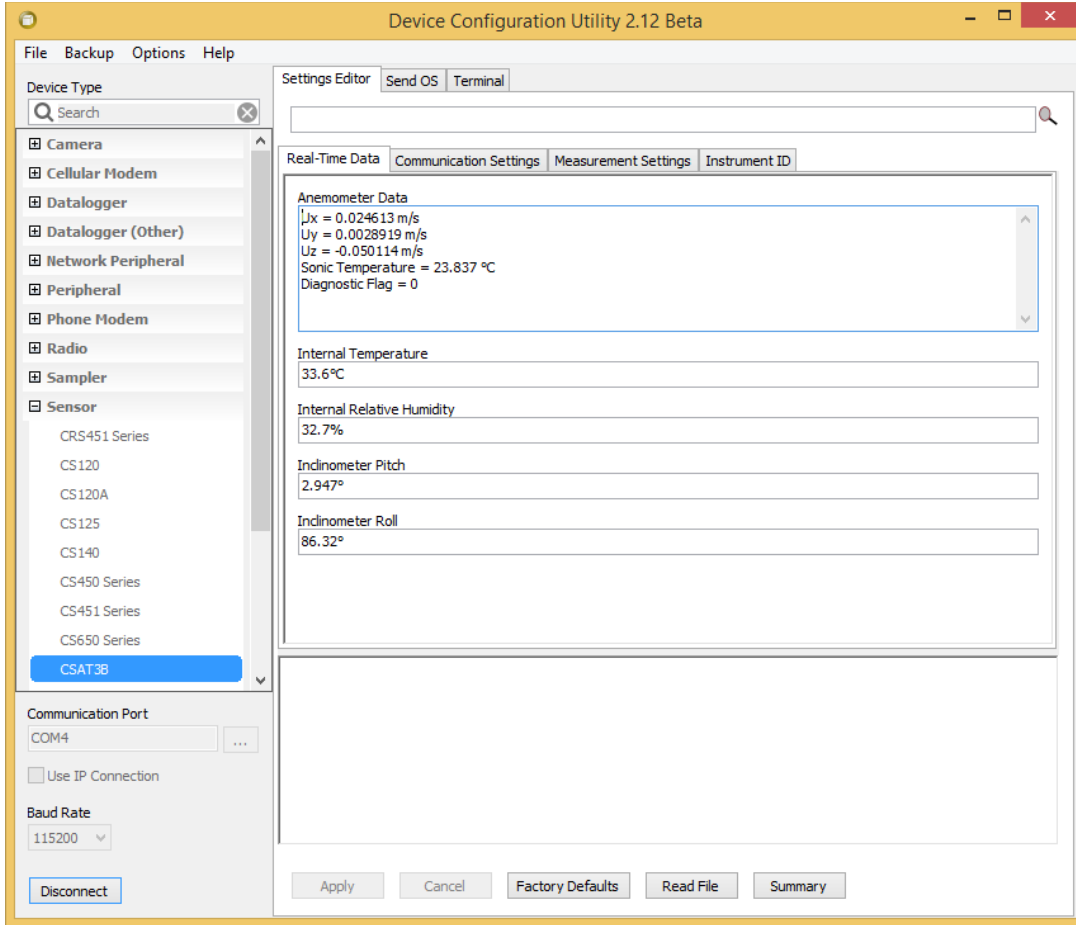

FIGURE 7-2. Real-time data subscreen while connected to CSAT3B with Device Configuration Utility
- Once connected, the main screen will have a section with tabs to view the following four subscreens: *Real-Time Data*, *Communication Settings*, *Measurement Settings*, and *Instrument ID*. TABLE 7-1 describes each of the settings or status values in these subscreens. For each setting or status value, the factory default setting is noted by the footnote. Ensure that the appropriate settings are enabled for the communication protocol that will be used. An example subscreen is shown in FIGURE 7-2.